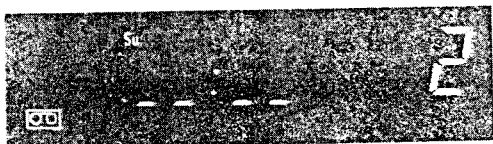

Fig. 8
1. When the VCR power on, the display will show as in the fig. 8.